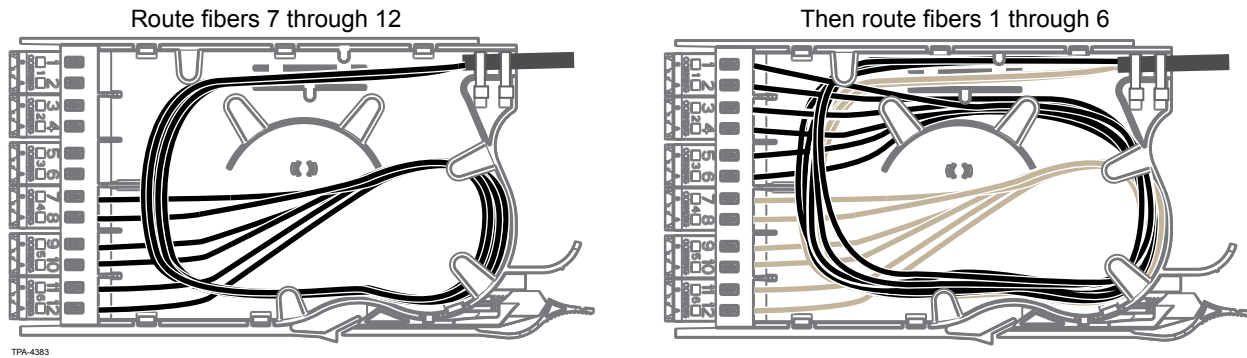

Figure 7
- Step 6:** Beginning with adapter 12, mate six connectors into adapters 7 through 12 and route the fibers as shown in Figure 7.